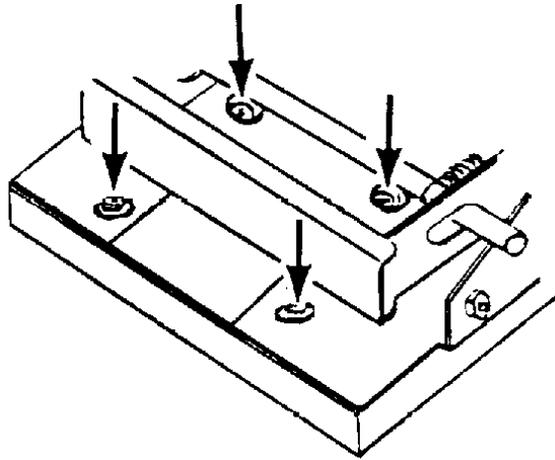

FIGURE 4
1. To align the printer or to correct light print across the width of the label, loosen the four (4) screws (figure 4) holding the printhead and position the printhead so the resistor line is centered over the platen roller.